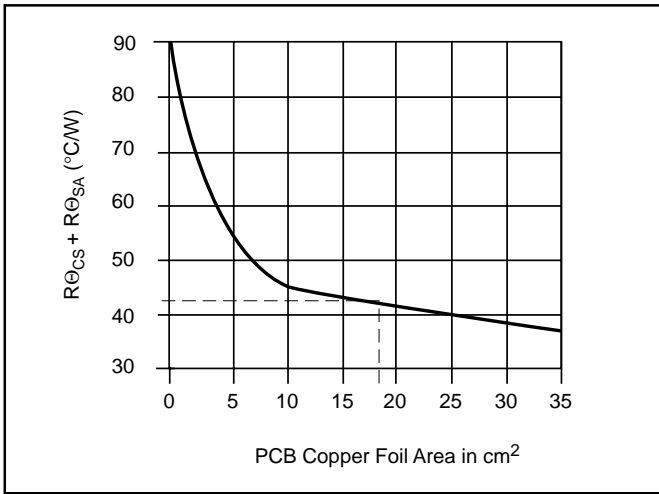

Figure 5B: Heatsink performance curve for PCB copper foil.
Step 2: Locate the value of the thermal resistance needed ( $R\Theta_{CS} + R\Theta_{SA}$ ) on the Y axis in Figure 5B. Find the intersection of the Y value with the curve and then read down to the X axis. The value on the X axis is the total area of the heatsink that is required. In this case the area is 18cm2. Each wing of the heatsink is 9cm2 or 3cm on a side.